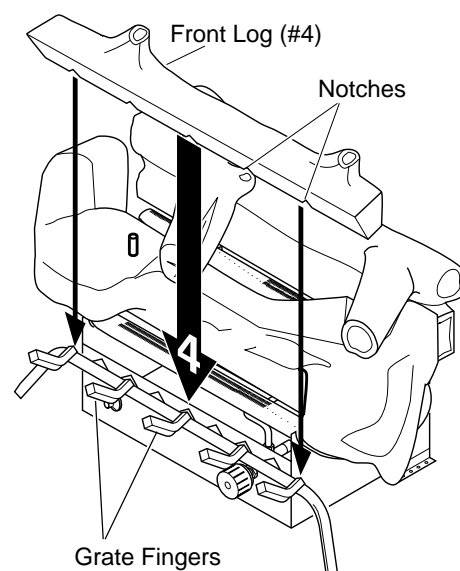

Figure 26 - Installing Front Log (#4)
4. Locate the notches in the bottom of the front log (#4). Place the front log on the grate fingers. Make sure the notches of the front log line up with the grate fingers. See Figure 26.